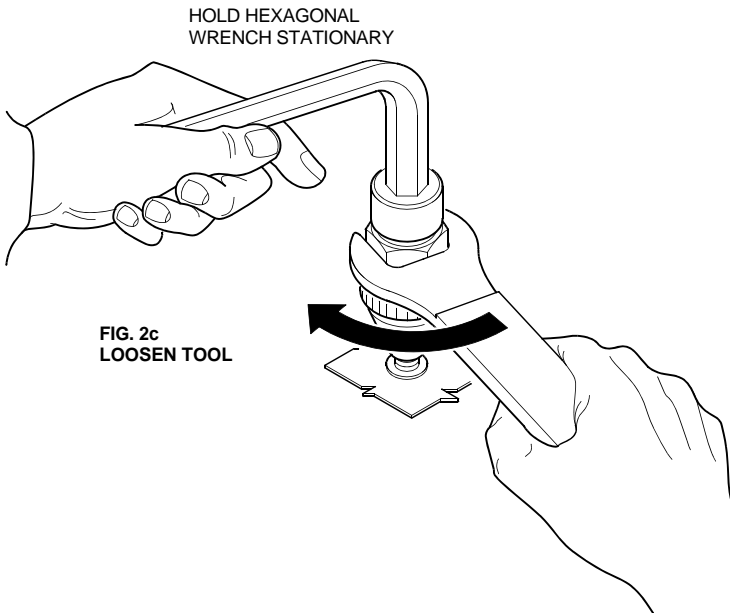

FIG. 2c
- (c) Loosen the hand tool (Ref. Fig. 2c):